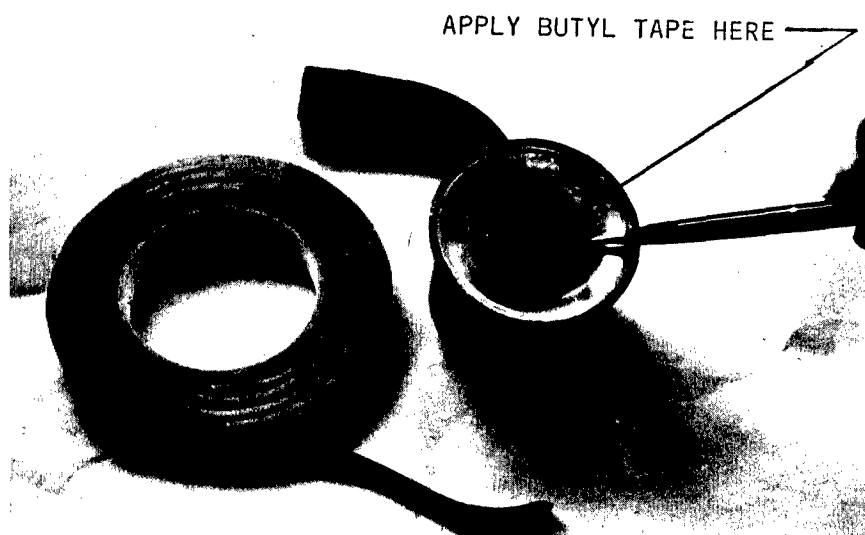

Figure 8
(4) Engine Crankcase Breather: Remove canister type breather filters from cylinder head rocker cover and seal with butyl tape as shown in Fig 8.